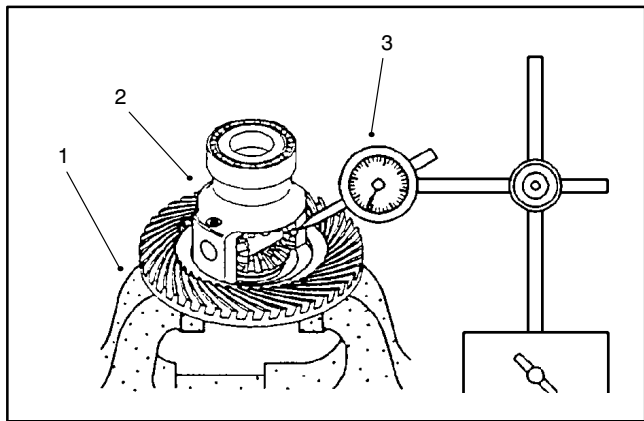

Figure 36
5. Secure the differential case in a vise. Position a dial indicator on a tooth of the differential pinion gear. Press the pinion and side gear against the differential case and measure the pinion gear to side gear backlash (Fig. 36).